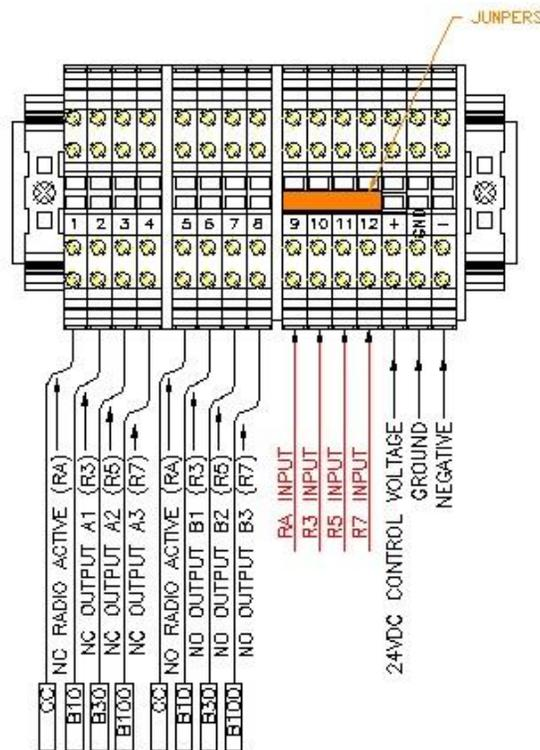

Figure 3 Power Connections
All field power and control connections are made using screw style terminal blocks, see Figure 3. Additional terminal block entry points are provided for jumpers and field connections. Wire connections to these terminal blocks are made as follows
Make the following connections: (see figure 3)
2. Place the metal jumper into position shown in Figure 3 at the desired location(s)
1. Major radio receiver subcomponents include the RE101 receiver, RE L12DWD controller, 24VDC/12VDC switched power supply, relays, and terminal blocks. Power inputs are made at the terminal block (see Figure 3) using only 24VDC. A single on/off switch controls power to all receiver components and is supplementary protected by a 5A inline fuse.